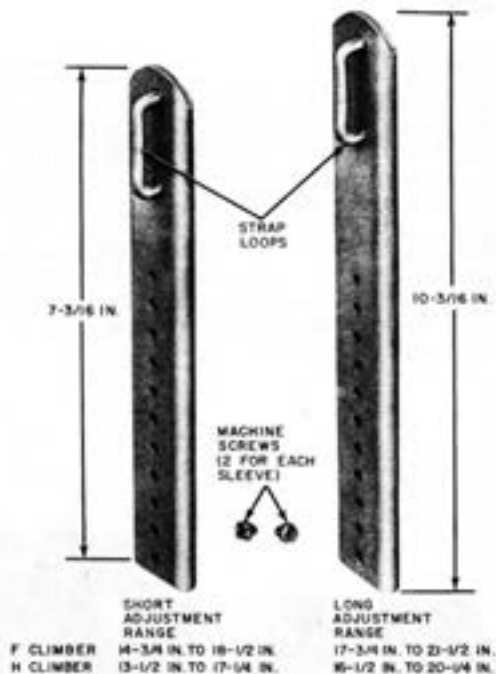

Fig. 4—¶Sleeves for Adjustable Climbers¶
3.08 The sleeves used on adjustable climbers are designed to fit snugly over the shank of the leg irons and to be securely locked in the desired position by machine screws. The sleeves are available in two lengths and can be adjusted in increments of 1/4 inch. Figure 4 illustrates the sleeves, the lengths available, and the adjustment range of each sleeve.